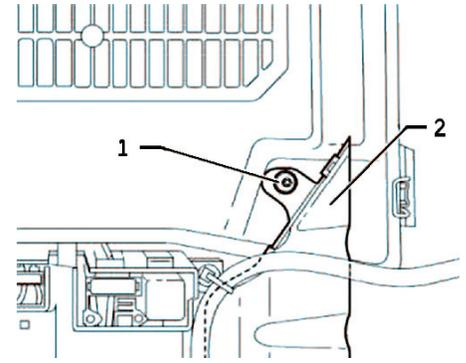

Fig. 2 Air guide removal
9. Remove screw (1) and remove air guide (2), **Fig. 2**.